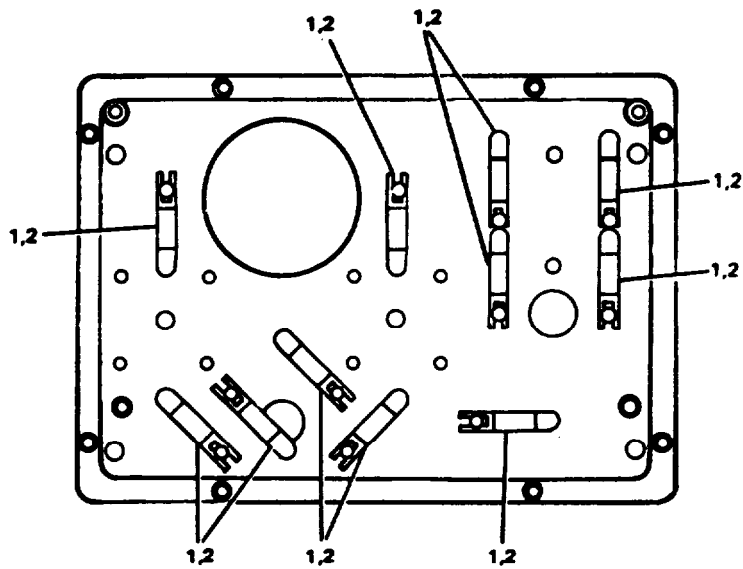

FIGURE 2-91. Steering Control Panel Assembly.
**2-113. Repair Steering Control Panel Assembly. (FIGURE 2-91)**